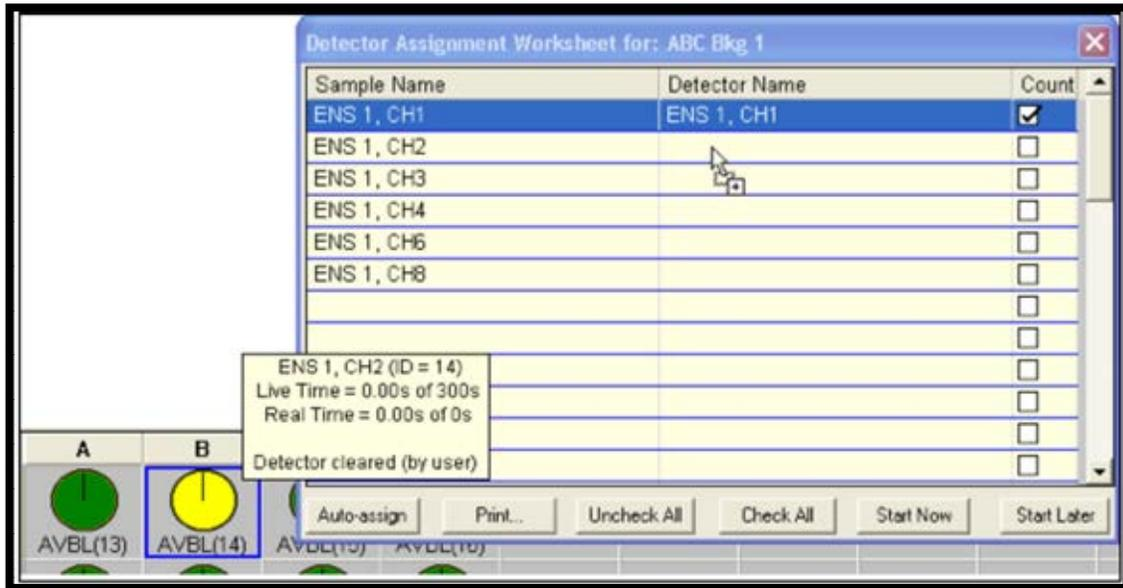

Figure 114. Assigning a Detector by Dropping its Icon in the Worksheet
- Otherwise, assign detectors either with the **Auto-assign** button or by dragging an available detector from the Detector Grid to each of the samples on the worksheet (Figure 114).¹⁶